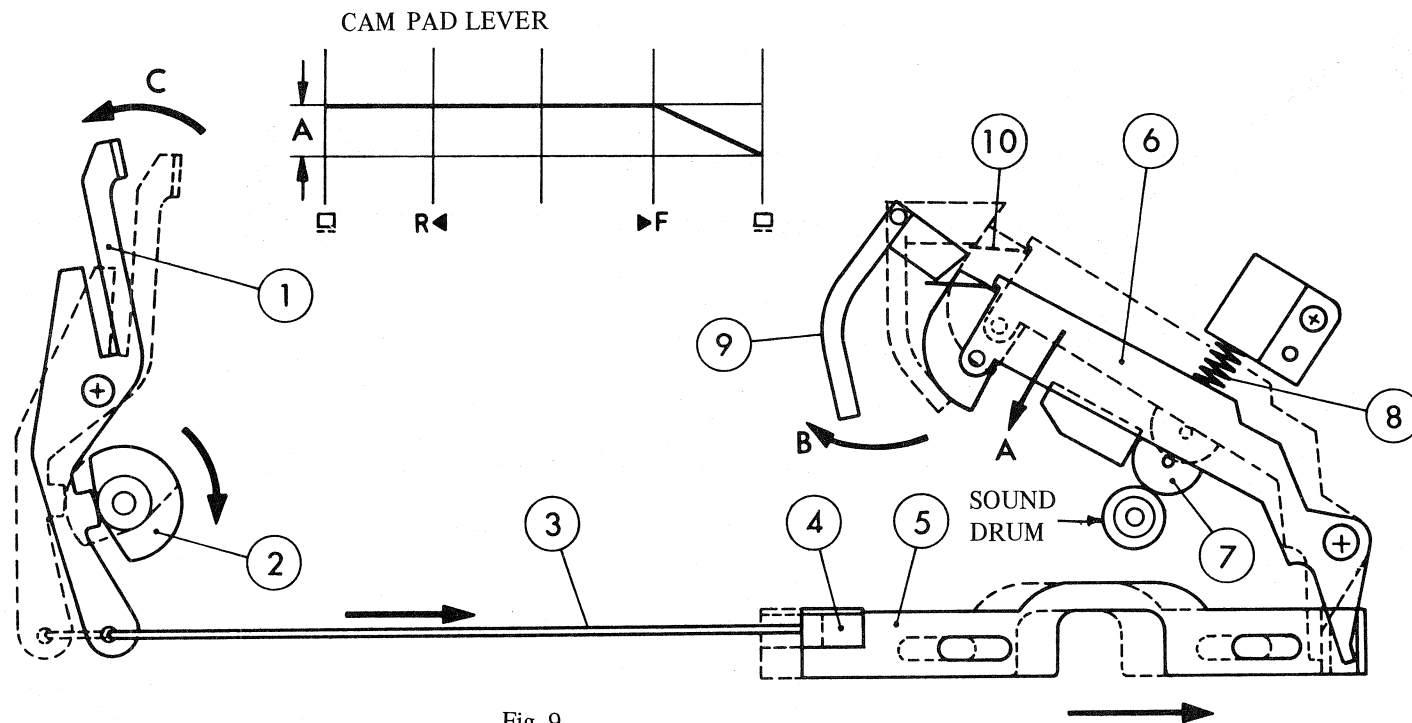

Fig. 9
As shown in Fig. 9, the film is rewound through the transmission of rotation from the motor assy ① → feeding section ② → cam assy ③ → cam shaft worm ④ → gear first sprocket ⑤ → pulley middle take-up ⑥ → gear middle rewind ⑦ → gear front arm shaft ⑧ → pulley (1) front arm ⑨ → timing belt ⑩ → pulley (2) front arm ⑪ → claw ratchet rear reel ⑬ → ratchet gear front arm ⑫.